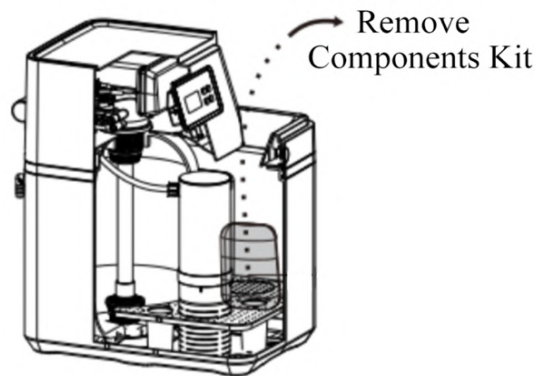

Figure 2
- CAUTION: Ensure the Components Kit & Filler material (see Figure 2) below, is removed from where it is stored in the Salt Reservoir cavity PRIOR to commencing the Installation, or the initial Test run on the Machine